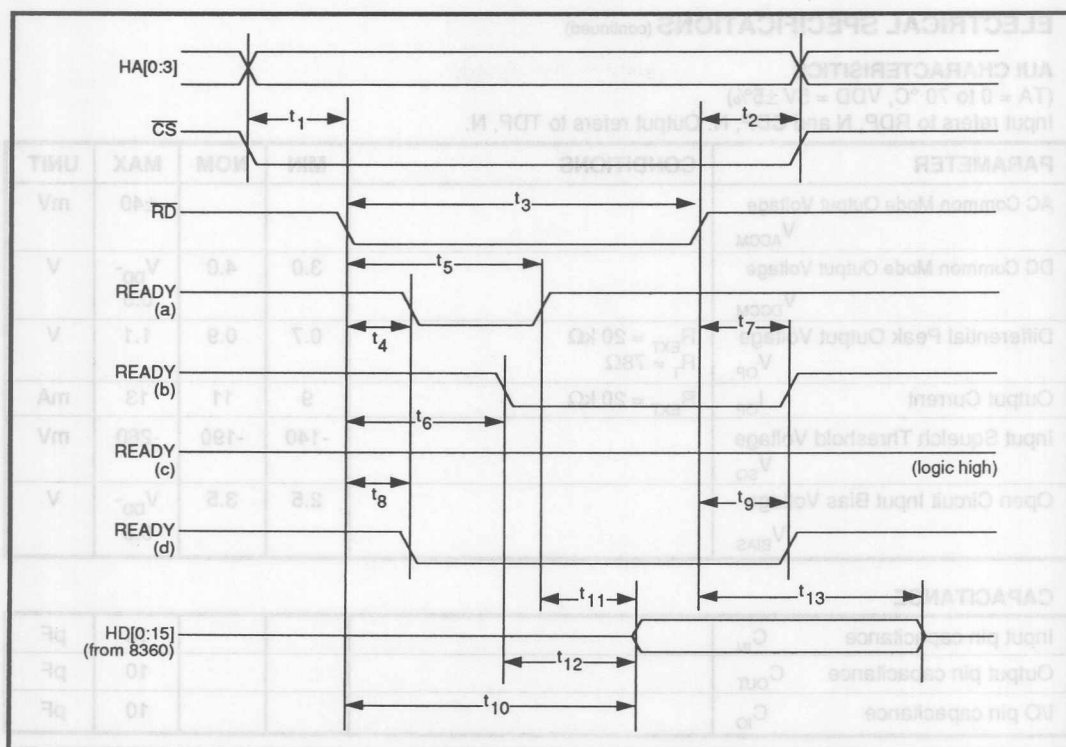
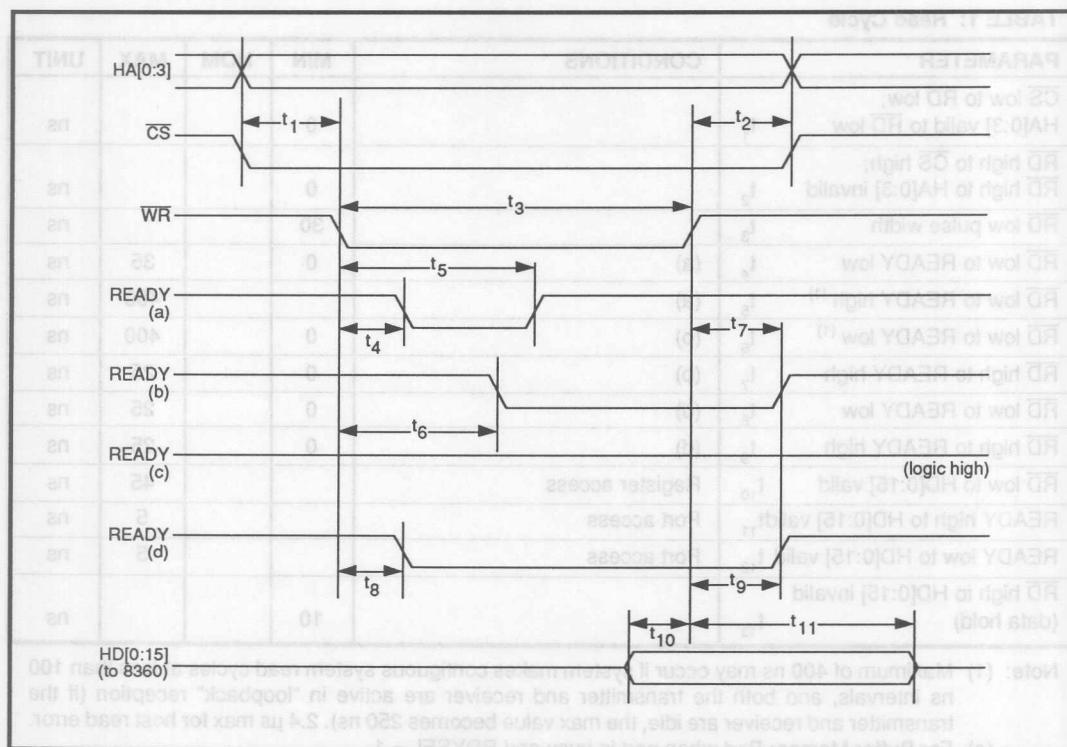

FIGURE 3: Read Cycle
FIGURE 4: Write Cycle
- Note: (1) An asserted EOP terminates any further DMREQ after \overline{DMACK} returns high.
(2) The DMA cycle uses \overline{DMACK} as the chip select. \overline{DMACK} overrides \overline{CS} and $HA[0:3]$ if they are both asserted at the same time, forcing selection of the Buffer Memory Port as in a DMA cycle.
(3) For READY timing and $HD[0:15]$ timing, see Figure 3, t_4 - t_{13} , and Figure 4, t_4 - t_{11} .
- Note: (1) DMREQ goes low during the next-to-last transfer of the burst. DMACK should not go high until after the RD or WR pulse of the last transfer cycle goes high
(2) The DMA cycle uses DMACK as the chip select. DMACK overrides \overline{CS} and HA[0:3] if they are both asserted at the same time, forcing selection of the Buffer Memory Port as in a DMA cycle.
(3) For READY timing and HD[0:15] timing, see Figure 3, t_4 - t_{13} , and Figure 4, t_4 - t_{11} .